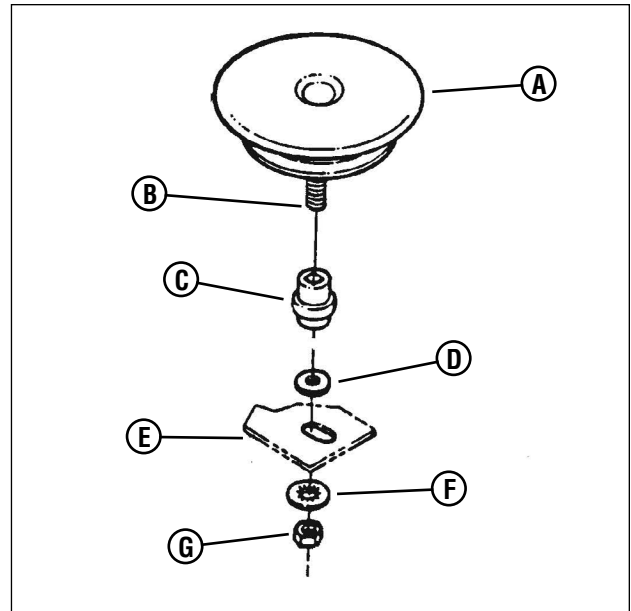

Figure 36: Removing the drive disc
5. Hold the slotted end of the drive disc bolt (**B**, **Figure 36**) with a screwdriver and remove the nut (**G**) and internal tooth lock washer (**F**).